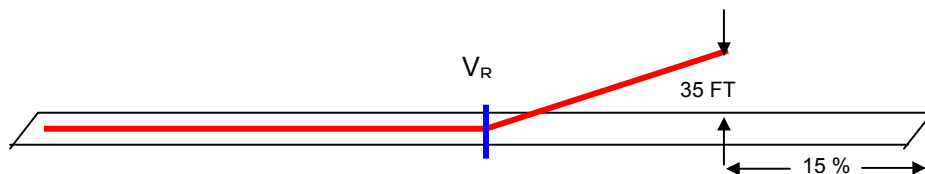

Figure 4 – Factored All Engine Takeoff Distance
**Factored All Engine Takeoff Distance** (Figure 4) – is the distance required to accelerate on all engines to  $V_R$ , rotate and reach 35 feet above the runway plus 15%. This distance is almost never a factor in determining the field length limit except in very light takeoff weight situations. Under these conditions the engine out performance is excellent and the 15% addition for all engines makes the difference. In any case this limit is never identified by the manufacturer so it is moot.